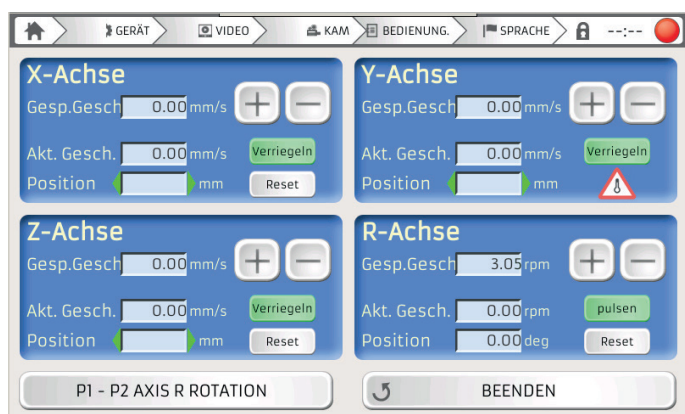

Figure 51 – Motor temperature error
- MOTOR TEMPERATURE ERROR** – this error occurs when the motor reaches the working temperature limit. Wait for the motor to cool down before using the respective axis (figure 51). When this error is active, the axis position reset button is replaced by the high temperature warning icon. If this problem occurs frequently contact the technical assistance service.